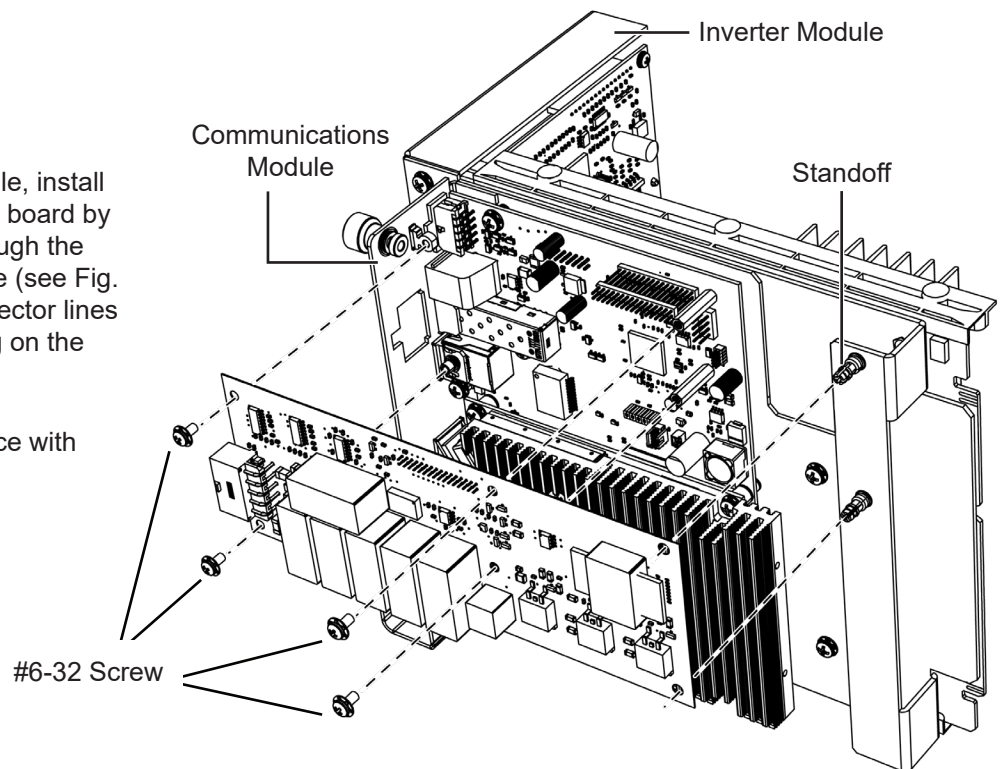

Fig. 2-15, Installing the SAG
2. In the Communications Module, install the Smart AlphaGuard (SAG) board by firmly pressing the holes through the two standoffs on the right side (see Fig. 2-15). Ensure the SAG connector lines up with the SAG port opening on the module.